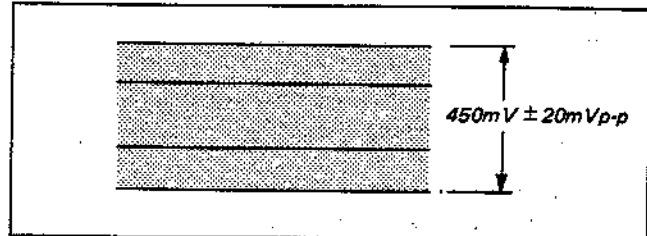

Fig. 5-28. Y record current adjustment
- Adjust to $20\mu\text{sec} \pm 1\mu\text{sec}$ with RV003. (See Fig. 5-28.)